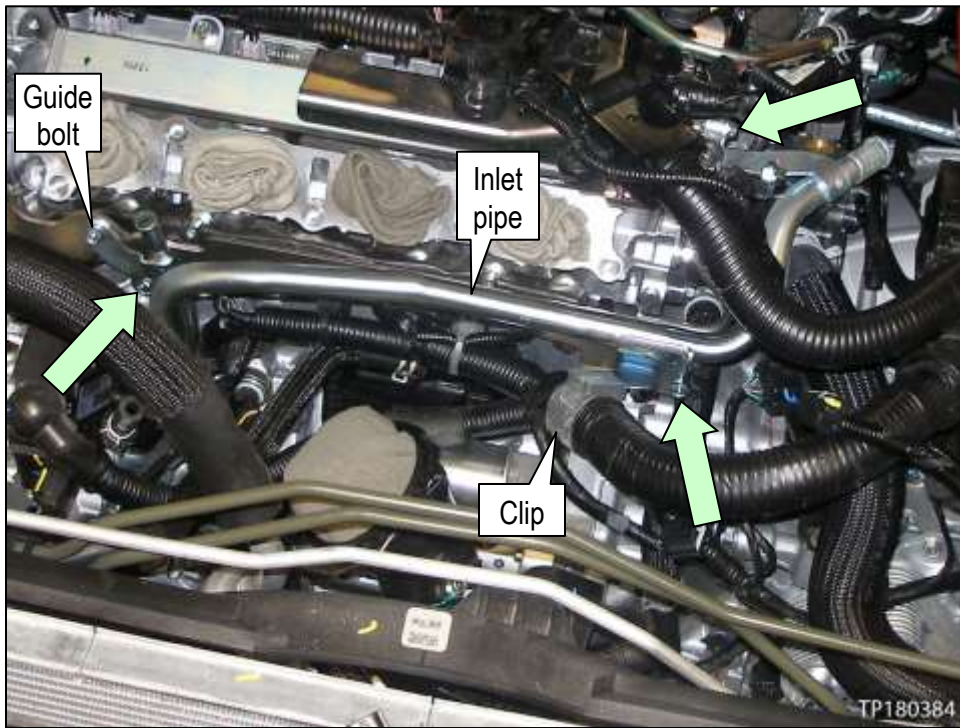

Figure 32
- c. Remove the three (3) water inlet pipe bolts (see arrows in Figure 32).